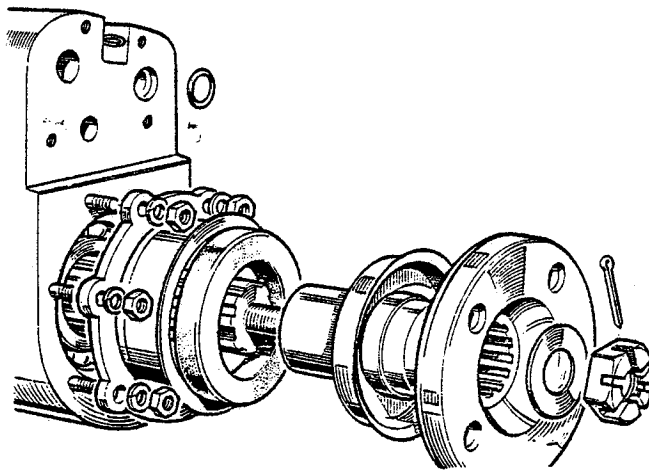

Fig. 34
Remove the front output shaft drive flange nut, flange and shaft (Fig. 34). If the shaft is tight in the bearing, use the thread protector to cover the threads of the shaft whilst driving it out.
1. Figure 34 and Figure 24.